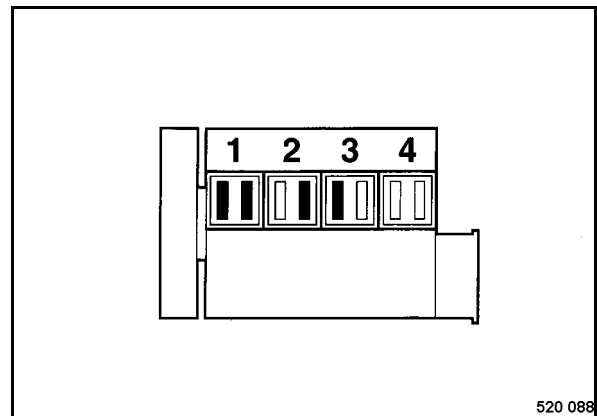

Fig. 82
- Crank the engine with the starter until both valves on cylinder 4 (Fig. 82) are “overlapping” (360° rotation of the crankshaft).
The valves marked black (Fig. 82) can be checked and adjusted.